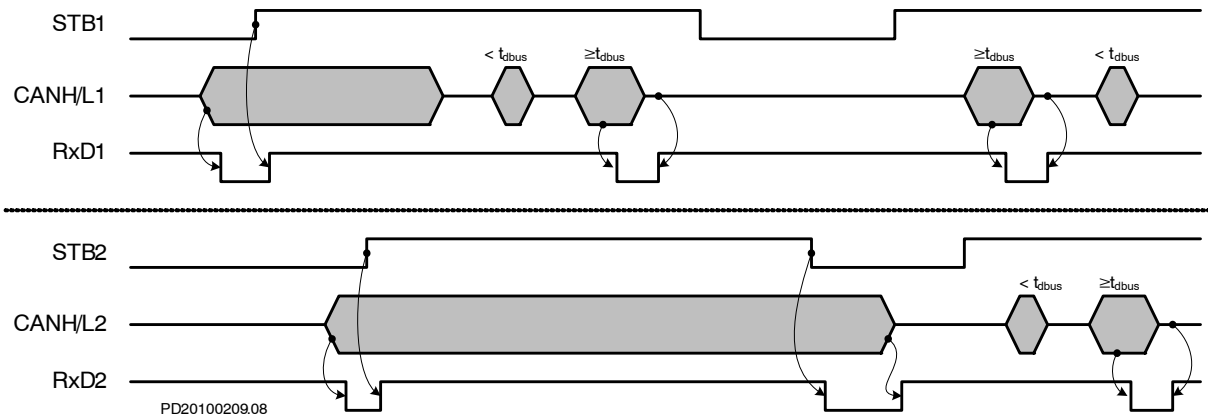

Figure 3. NCV7441 Dual CAN: Bus Activity Detection in Standby Mode
- ♦ Digital output RxD1/2 signals the output of the low-power receiver and can be used as a wakeup signal in the application. A filtering time t_{dBUS} is applied between the bus activity and the RxD1/2 signal in order to ensure that only sufficiently long dominant signals on the bus will be propagated to the digital output. In addition, dominant bus signals are ignored in case they were present during normal-to-standby mode transition; in this way unwanted wakeups are avoided in case of permanent dominant failure on the bus. Example waveforms illustrating bus activity detection in standby mode are shown in Figure 3.